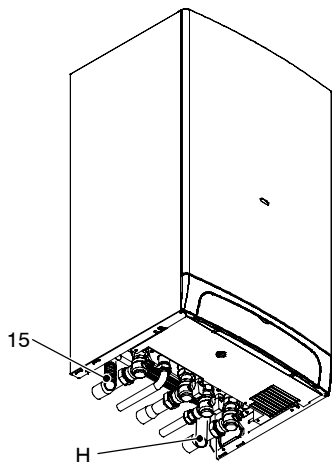

Fig. 6.4
- 8 Connect the pipe H (Fig. 6.4) from the pressure relief valve to the safety discharge pipework.
- 9 Fit the condensate drain 15 (Fig. 6.4) in the air brake connected to the drainage pipework. See also section 5.7 in this manual.